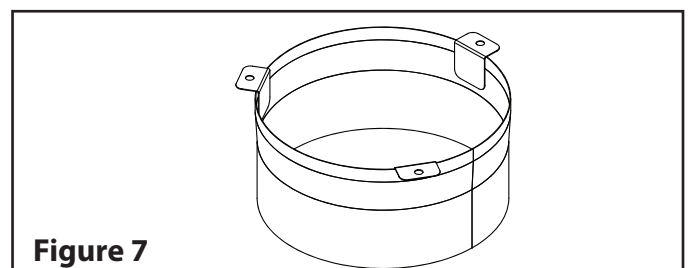

Figure 7
Step 4: Before lowering the chimney length into the support, install the Smoke Pipe Adapter (see Figure 7). Wrap the insulation pad around the chimney section removing any excess. Lower this first chimney length in the support. Make sure the Smoke Pipe Adapter protrudes through the opening of the support. Slide insulation pad into the space between the chimney section and support making sure the insulation makes contact with the bottom of the support. Additional pieces of insulation can be loosely tucked down within corners. Do not compress insulation. This reduces effectiveness.